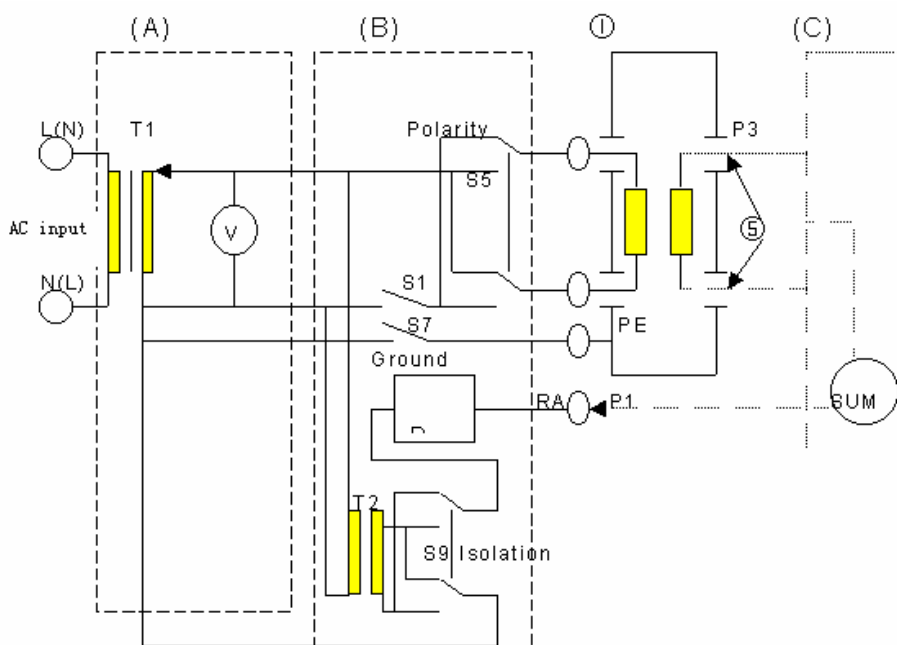

Figure 3 Connection graph to test the leakage current from application part (patient) to earth
2.2.3.1 Connection graph for testing is shown in figure 3: